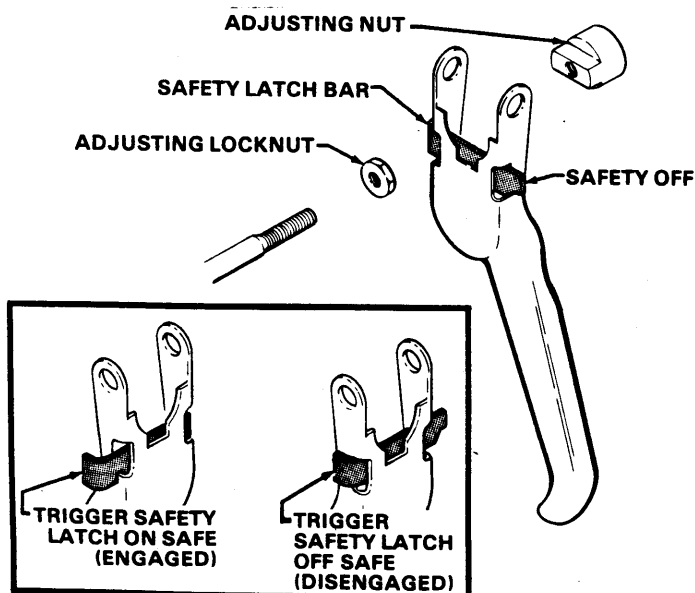

Fig 1
3. Loosen the locknut. Install the new trigger. Now turn the adjusting nut so its flats are parallel with the safety latch bar in the new trigger. See Fig 1.